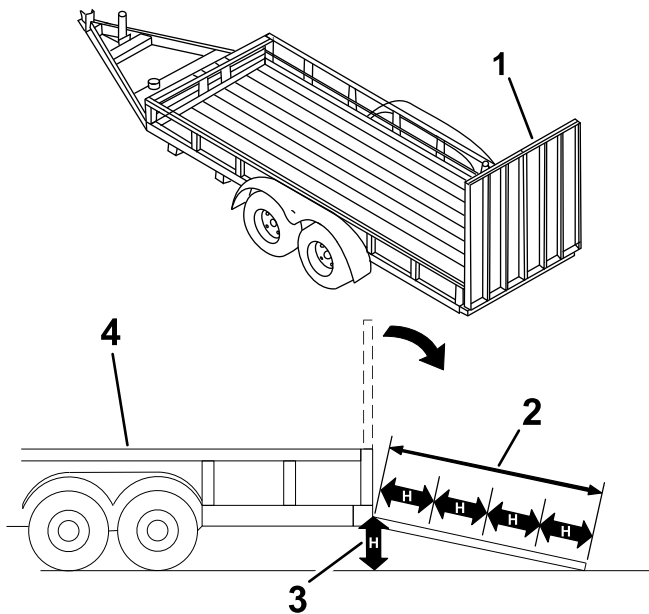

Figure 18
Loading a machine onto a trailer or truck increases the possibility of tip-over and could cause serious injury or death (Figure 18).
3. Lower the ramp (Figure 18).